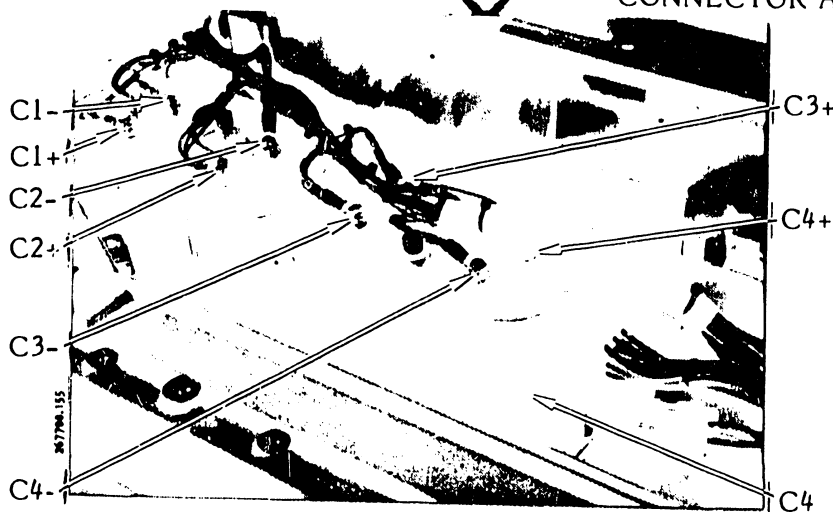

Figure 3-80. Capacitor Bank Assembly Removal/Installation
3.7.8 Capacitor Bank Assembly Removal/Installation (Figure 3-80)
2. Use an 8 mm nut driver to remove the four auxiliary capacitor bank wires from capacitor terminals C4-, C3-, C3+, and C2+ (see figure 3-80).
- a. Place the capacitor bank assembly in position on the printer base standoffs (see figure 3-80). Harness plug A8P1 will be on the fan assembly side of the printer.
- g. Plug the band motor cable plug (P1), the paper clamp solenoid plugs (P3A and P3B), and the paper feed motor cable plug (P4) back into their Power Board connectors (see figure 3-80).